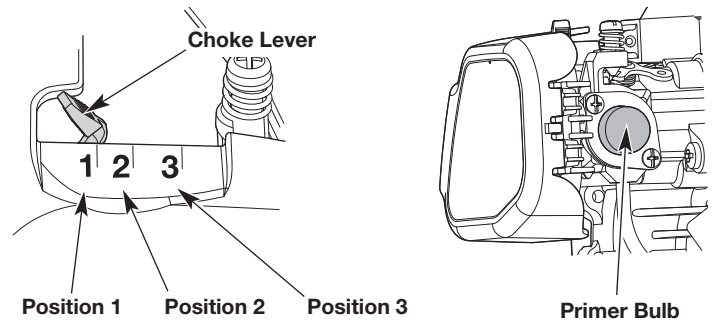

Fig. 7
3. Slowly press and release the primer bulb **10 times** (Fig. 7). If fuel cannot be seen in the primer bulb, press and release the primer bulb until fuel is visible.
4. Move the choke lever to **Position 1** (Fig. 7).
7. Continue to squeeze the throttle control. Move the choke lever to **Position 2** (Fig. 7).
10. Continue to squeeze the throttle control. Move the choke lever to **Position 3** (Fig. 7) and continue warming the engine for an additional 60 seconds. The unit may be used during this time.
**IF...** the engine hesitates, return the choke lever to **Position 2** (Fig. 7) and continue the warm-up.
8. Continue to squeeze the throttle control. Move the choke lever to **Position 2** (Fig. 7).
12. Continue to squeeze the throttle control. Move the choke lever to **Position 3** (Fig. 7) and continue warming the engine for an additional 60 seconds. The unit may be used during this time.